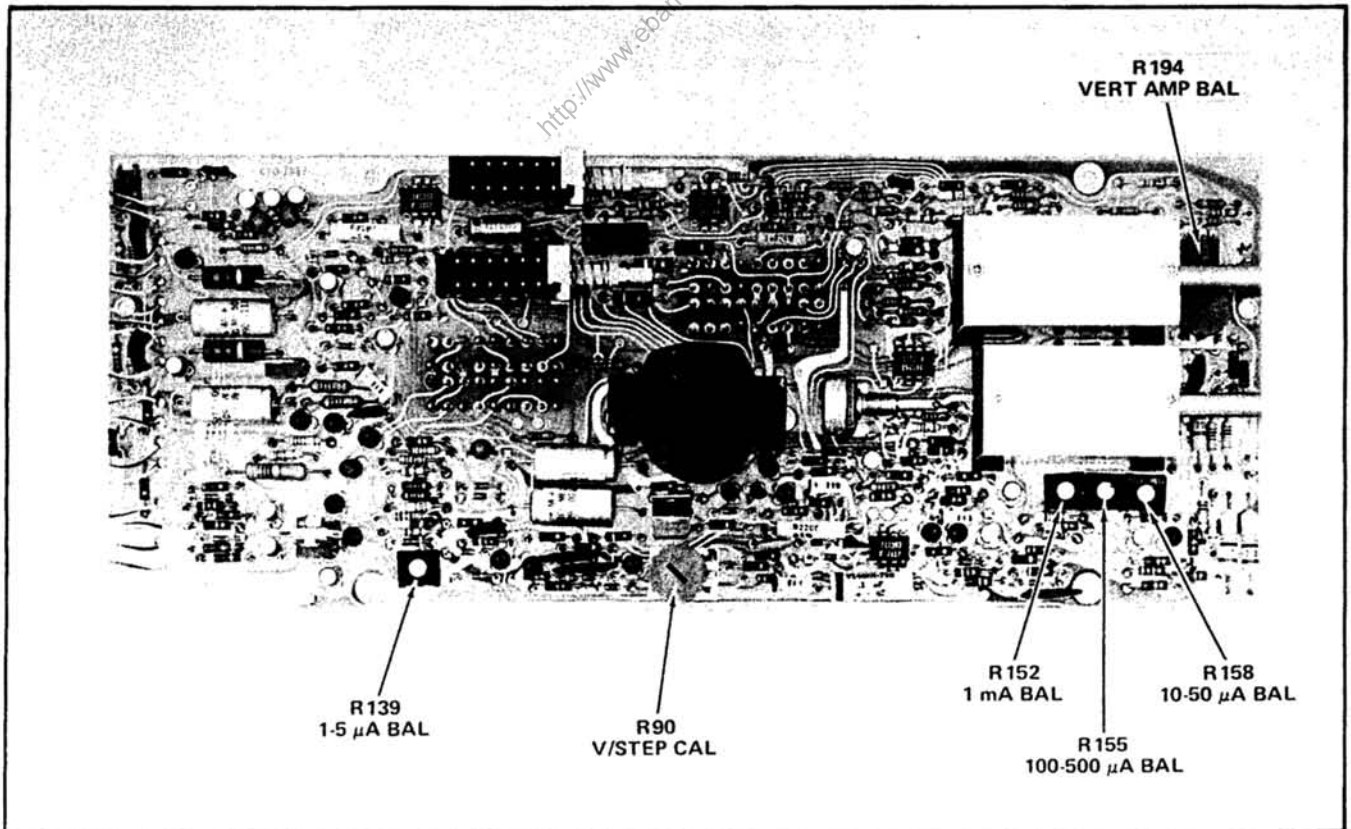

Fig. 3-1. Location of internal adjustments for the 7CT1N.
d. ADJUST—R194, the VERT AMPL BAL adjustment (see Fig. 3-1), for no vertical shift in spot between the two positions of the VERTICAL switch.
e. ADJUST—R139, the 1-5 μA BAL adjustment (see Fig. 3-1), to move the trace to the center horizontal graticule line.